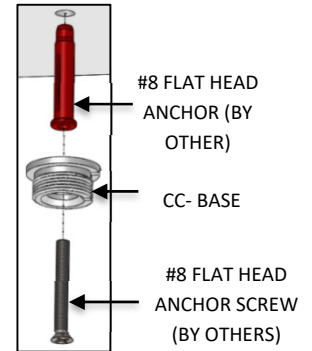

FIG. 19- HARD CEILING INSTALLATION
- Install the CC-BASE to the #8 FLAT HEAD ANCHOR (by others) previously installed at the non-powered mounting location and secure with the #8 FLAT HEAD ANCHOR SCREW (by others) as shown in FIG. 19.